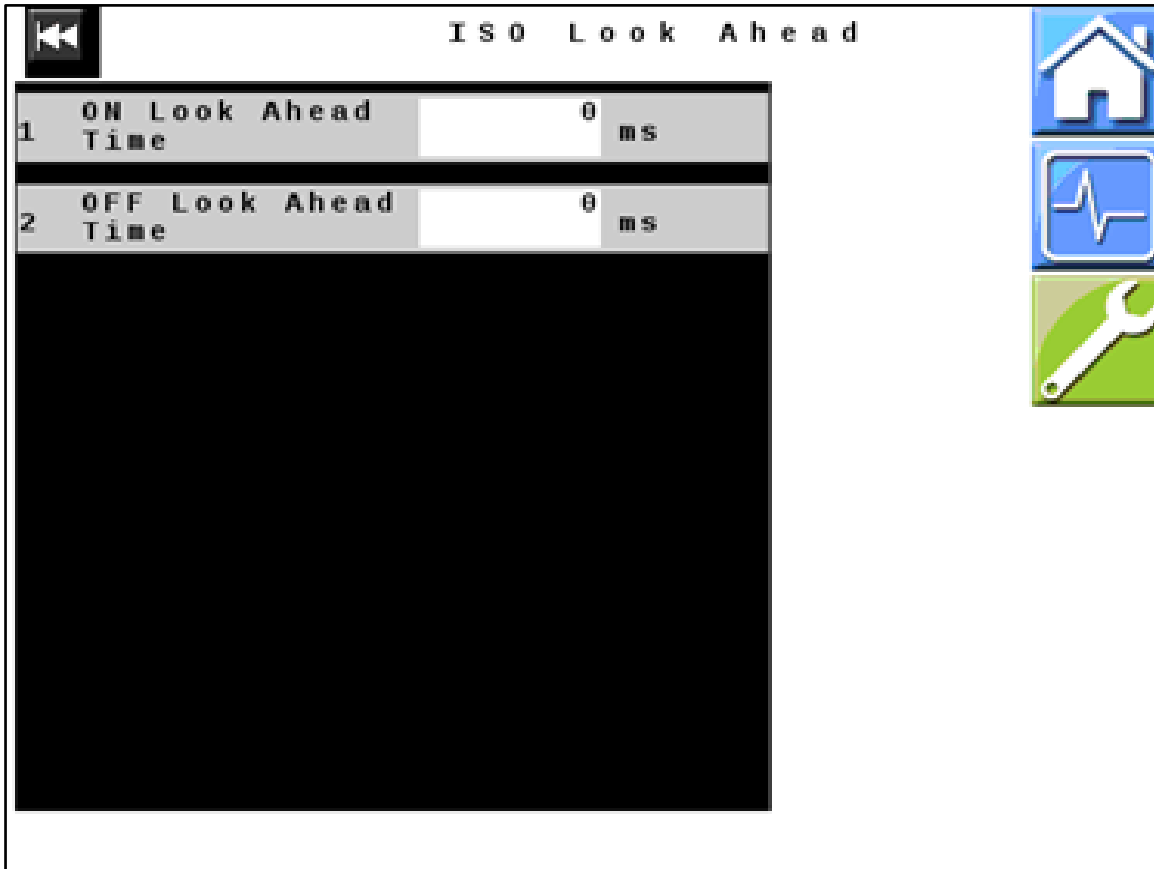

Figure 21 — ISO Look Ahead
36. *Figure 21*: Verify that all values displayed on your unit match those shown here. Change values if necessary.